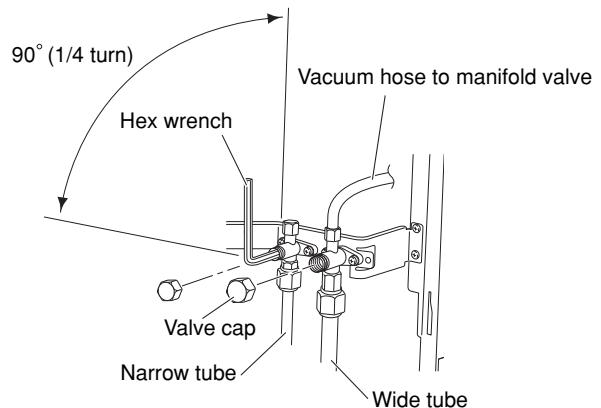

Fig. 58
- (5) With the vacuum pump still running, close the "Lo" knob of the manifold valve. Then stop the vacuum pump.
- (6) With the hex wrench, turn the valve stem on the narrow tube service valve counter-clockwise by 90 degrees (1/4 turn) for 10 seconds, and then turn the stem clockwise to close it again. (Fig. 58)